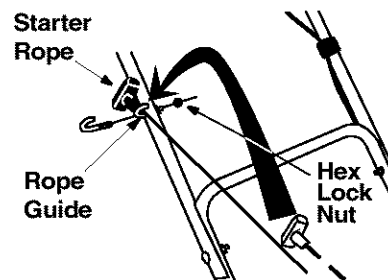

Figure 10
- Loosely attach the rope guide (from group 6 of the hardware pack) to the upper handle and thread the lock nut (also in group 6) only a few turns. Do not tighten. Make sure that the rope guide is to the outside of the upper handle. See Figure 10.